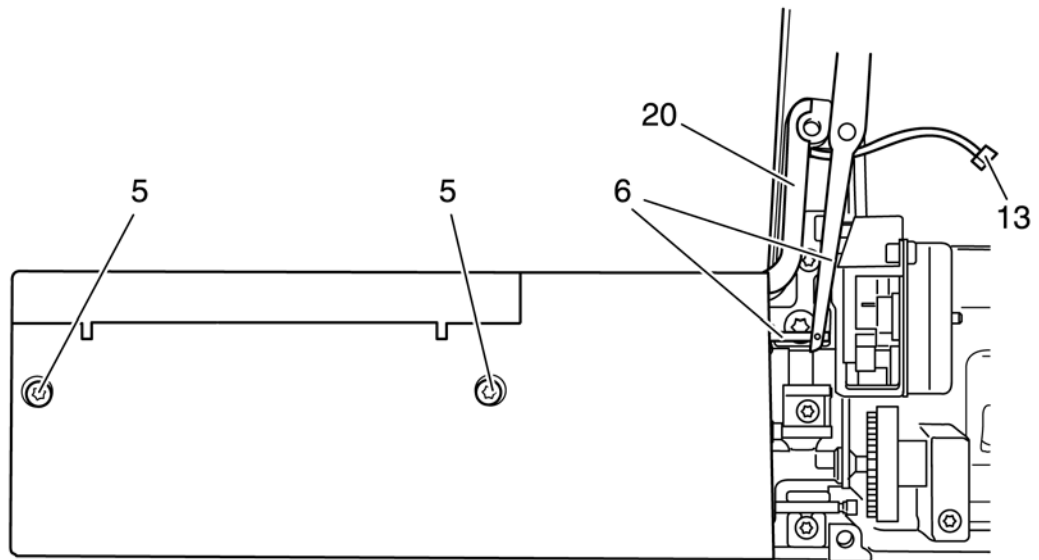

Fig. 112
- Unscrew and remove both fastening screws 5 of the free-arm cover (fig. 112).
- Disengage both feed regulators 6 using a small screwdriver (fig. 112).
- Install the new free-arm cover with thread monitor and secure with both fastening screws 5 (fig. 112).
- Engage both feed regulators 6 (fig. 112).